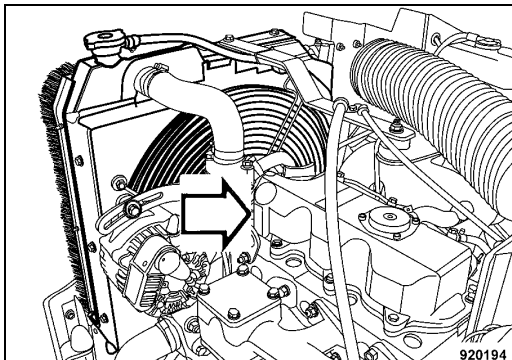

Fig. 160
- Remove the valve cover (Fig. 160).